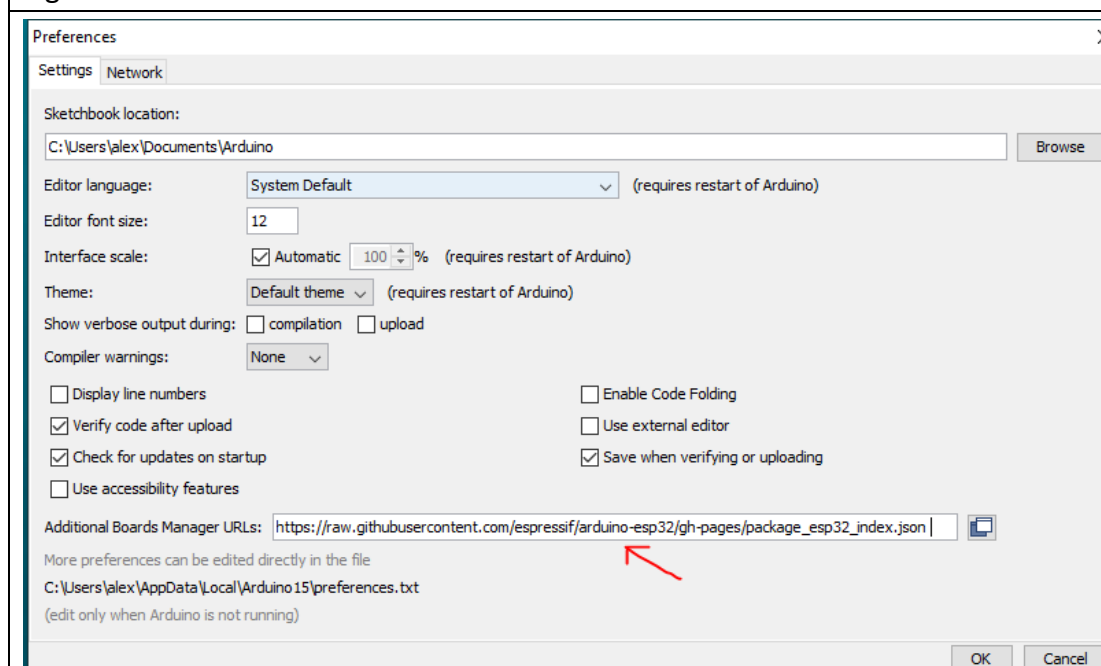

Figure-1.5. Fill the path of json file.
7. In the text box **Additional Boards Manager URLs**, fill the path [https://raw.githubusercontent.com/espressif/arduino-esp32/gh-pages/package\\_esp32\\_index.json](https://raw.githubusercontent.com/espressif/arduino-esp32/gh-pages/package_esp32_index.json) of ESP32 json file as in Figure-1.5. Press OK to proceed to the next step.